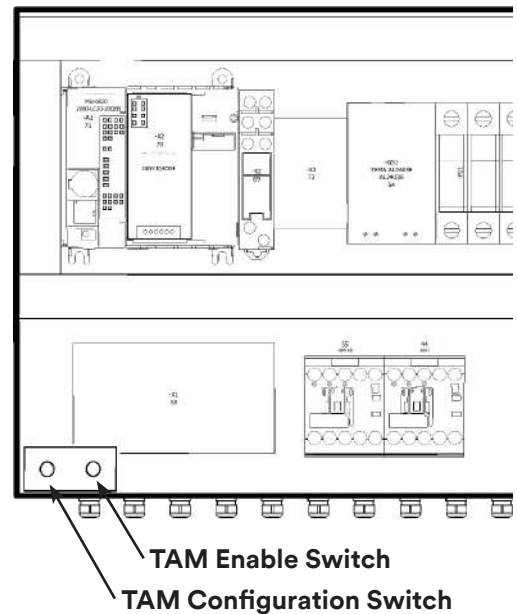

Figure 7-20
2. Locate the 2 TAM Toggle switches and light assembly (Fig 7-20, 7-21)